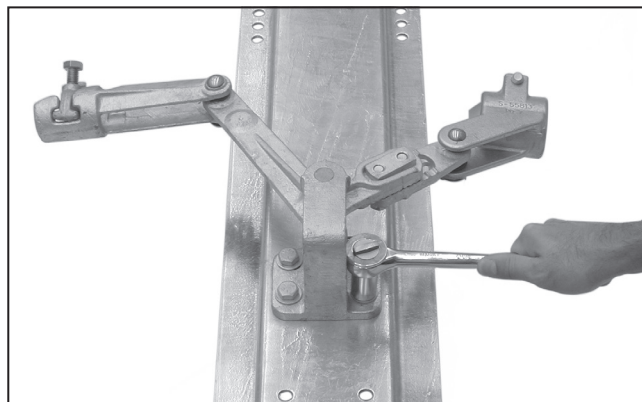

Figure 5. Attaching the bell-crank assembly.
STEP 3. Attach the bell-crank assembly to its base or bracket (pole-mounted arrangements only). See Figure 5.